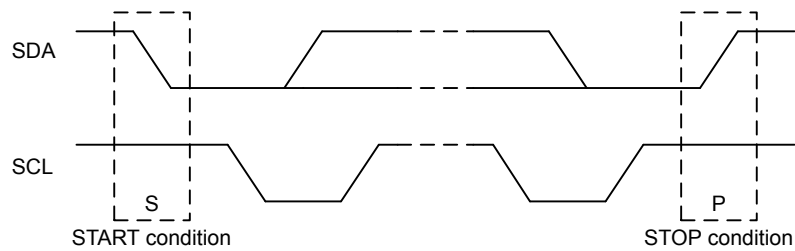

Figure 21.4. I2C START and STOP Conditions
START and STOP conditions are used to initiate and stop transactions on the I²C-bus. All transactions on the bus begin with a START condition (S) and end with a STOP condition (P). As shown in Figure 21.4 I2C START and STOP Conditions on page 703, a START condition is generated by pulling the SDA line low while SCL is high, and a STOP condition is generated by pulling the SDA line high while SCL is high.